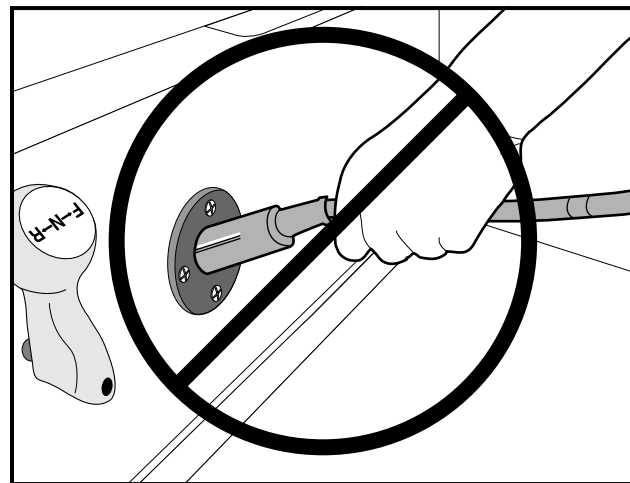

Figure 14 Incorrect Insertion of Charger DC Plug
- DO NOT PULL ON THE DC CORD (**FIGURE 14, PAGE 22**). DO NOT TWIST, ROCK OR BEND THE PLUG. TO DISCONNECT THE CHARGER PLUG FROM THE VEHICLE RECEPTACLE, GRASP THE PLUG BY THE HANDLE AND PULL THE PLUG STRAIGHT OUT OF THE RECEPTACLE.
- FAILURE TO FOLLOW THESE INSTRUCTIONS COULD RESULT IN DAMAGE TO THE CHARGER CORD, THE PLUG, AND (OR) THE VEHICLE RECEPTACLE.